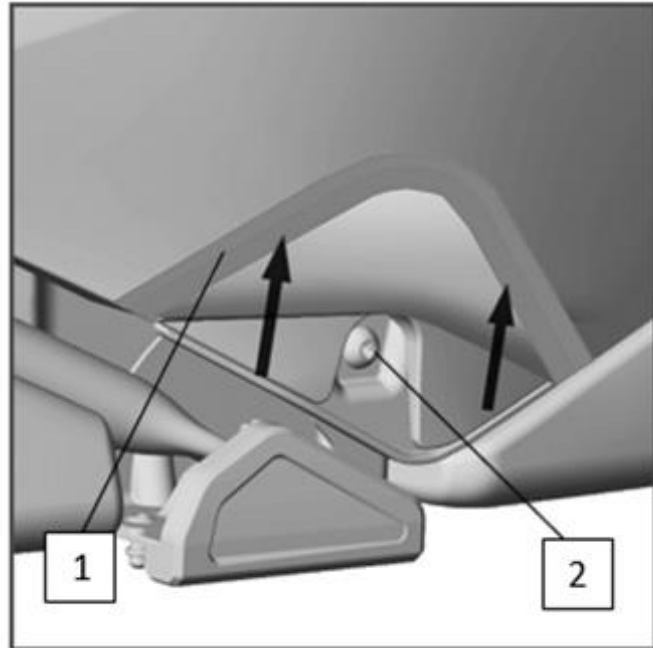

Fig. 21
1. As shown in the figure, unscrew the seat cover (Pose 1, Figure 21) from the base to allow access to fasteners;
2. Use a 5 mm socket head cap screw to tighten the wrench (position 2, Figure 21) to remove the seat (the wrench is in the snowmobile tool kit);